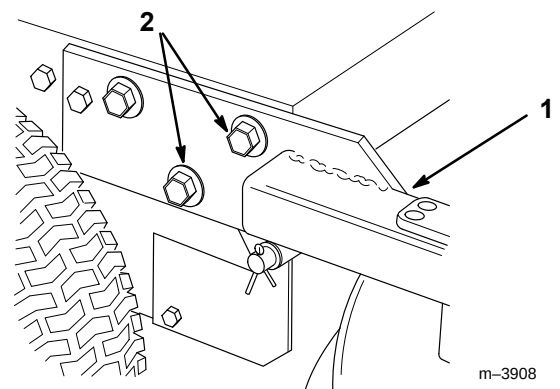

Figure 3
3. Remove (2) front flange head bolts and flange nuts securing right side of carrier frame to frame (Fig. 3).